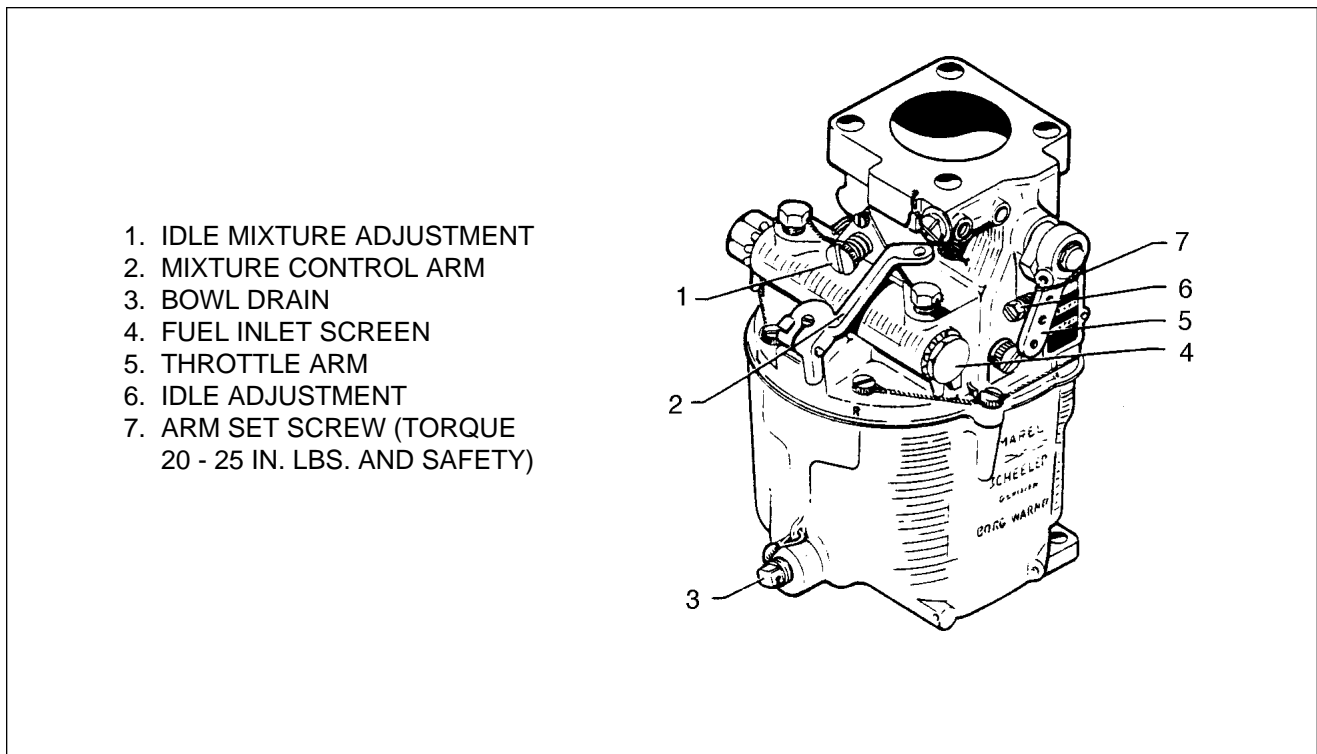

Figure 8-6. Carburetor
- d. Clean the fuel inlet screen, (Refer to Figure 8-6.)
## 8-17. ADJUSTMENT OF IDLE MIXTURE. (Refer to Figure 8-6.)